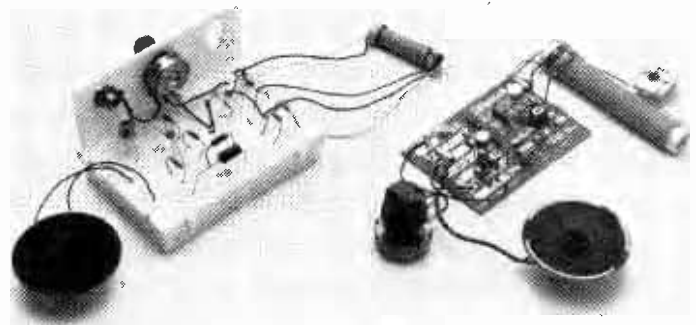

Fig. 5
**S Dec**, see Fig. 5, measures 114  $\times$  76mm and follows the socket connection system in Fig. 1(b). The board is designed to accept only discrete components with lead diameter up to 1mm. The layout has 70 sockets arranged in seven rows each with two strips of five linked sockets. The double-sided sockets are constructed from brass, and are rated at 5A. Each hole is numbered from 1 through to 70 on the top of the board.